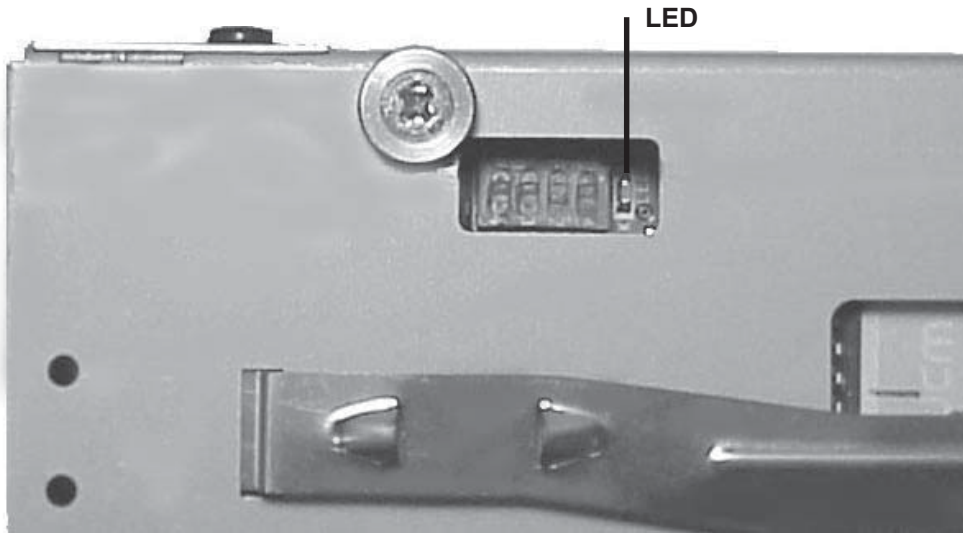

Figure 3.
7. The LED flashes, 100 ms ON, 1 sec. OFF (see Fig. 3).
12. The LED flashes 100 ms ON, 1 sec. OFF (see Fig. 3).